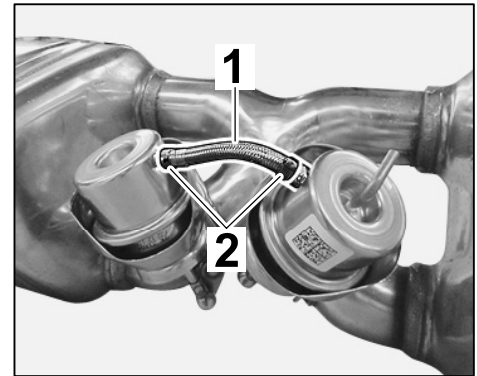

Figure 18
3.1 Fit 80-mm steel flexi-pipe ⇒ *Figure 18 -1-* on the connections between the vacuum units.
Lock single-lug clips ⇒ *Figure 18 -2-*.